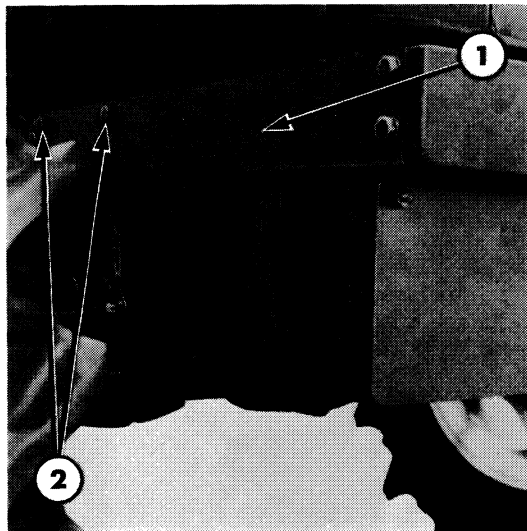

Figure 16
10. Remove the bolts securing the fuel tank support assembly to the main front axle support, Figure 16. Withdraw the assembly from the front of the vehicle.